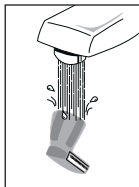

Fig.4
2. Rinse the trimming blades under running water (Fig.4).